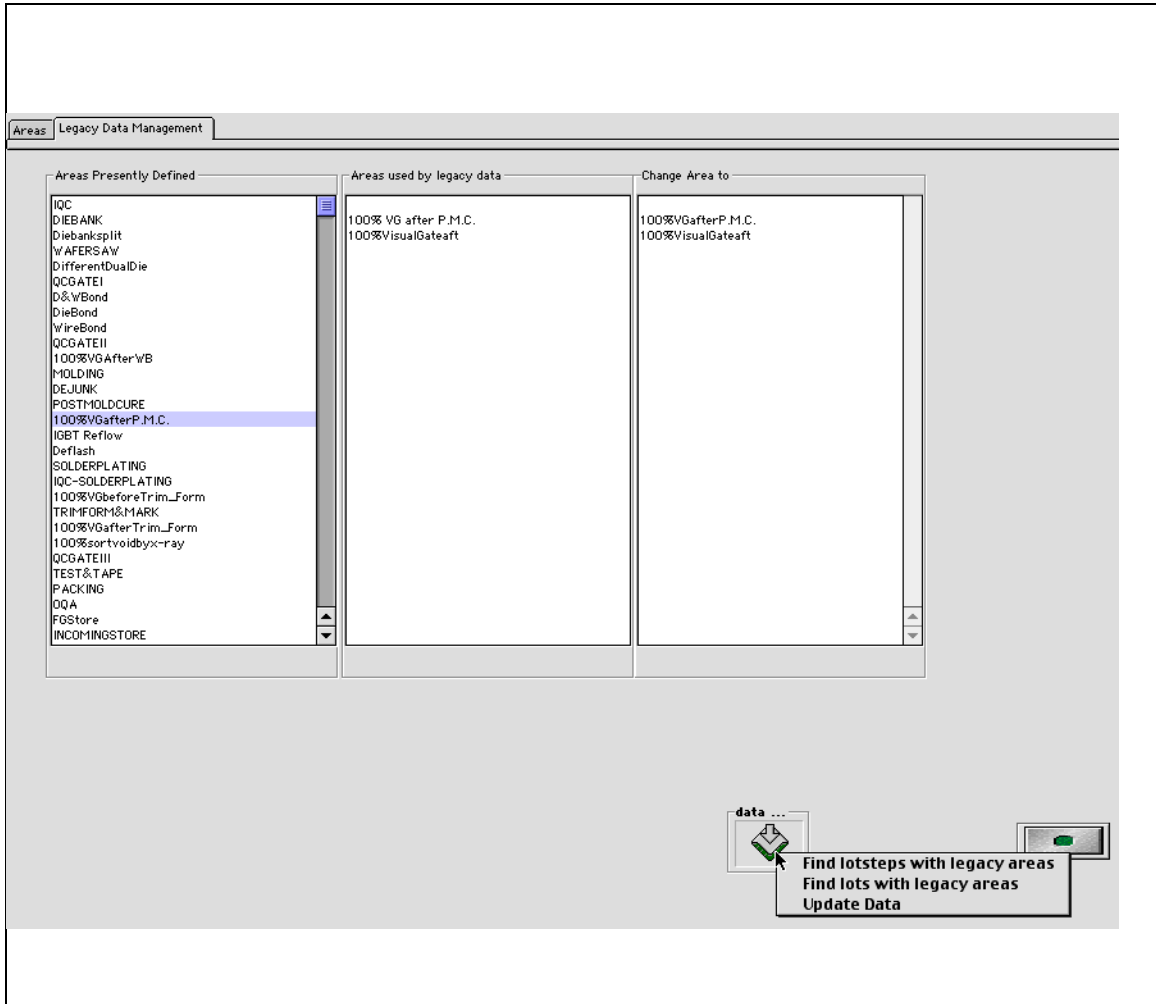

FIGURE 9.36
1) Using the pull down menu query the data-base for all lotsteps that contain area names NOT in the AREADEFINITION table. The form in figure 9.36 on page 9.98 has three scroll boxes. The first scroll-box lists the areas presently defined in the database. The second scroll box lists the areas uncovered in the database that do not have a corresponding record in the AREADEFINITION table. The third scroll-box is a copy of the second box with user modifications. To modify legacy data the user must first map the legacy area to the new area. To do so simply drag an area from the first scroll-box to the second scroll box. (The user may map one or several areas at a time).